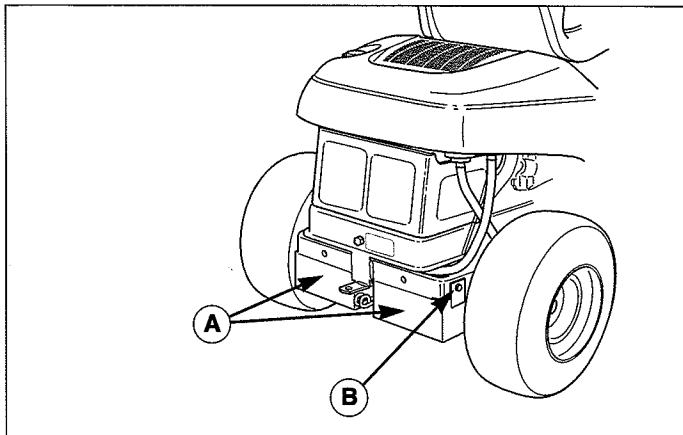

Figure 32. Rear Weight Removal
3. Support the rear weights (A, Figure 32) with a floor jack.
4. Remove the bolt (B, Figure 32) from one of the weights (see A, Figure 32). Lower the jack and remove the weight. Repeat with the other weight.